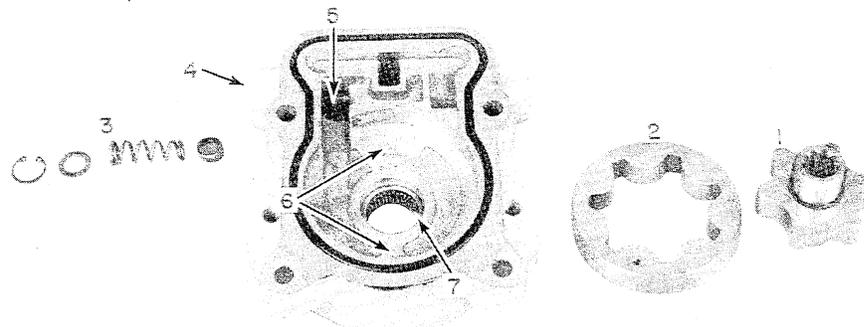

FIGURE 36
22. The gerotor charge pump consists of an inner gerotor ring (1) mounted on a keyed shaft, an outer gerotor ring (2) and a charge-replenishing valve assembly (3), Figure 36. The charge replenishing valve assembly is held in the reservoir supply port (4) to the charge pump by a snap ring. Item (5) is a separate charge passage located in the charge pump adaptor only.
- A. Inspect the charge replenishing valve seat in the adaptor assembly. It should be smooth and free of defects. The relief valve spring should be inspected for any defects such as cracks or fatigue. Make sure the snap ring used to secure the replenishing valve assembly is in the proper groove and not in the fitting threads. See (3), Figure 36.
- B. The charge pump adaptor should be inspected for any scoring in the gerotor area. See (6), Figure 36. Small sand casting pits are acceptable in this area.
- C. Inspect the needle bearing (7), Figure 36. If the needles are free of excessive play and remain in the bearing cage, there is no need to replace the bearing.
- D. Inspect the gerotor outer and inner rings (1 and 2), Figure 36, for any wear, cracks, or worn drive key and replace as necessary.
- A. Install outer gerotor gear (2), Figure 36, in the charge pump adaptor housing. Lubricate gear with STP.
- B. Install shaft key in coupler shaft and install inner gerotor gear over coupler (1), Figure 36. Later inner gears are secured to the shaft with lock rings on both sides of the gear.
15. Reinstall charge pump charge-replenishing valve (3), Figure 36, making sure snap ring is in the snap ring groove and not the fitting thread area to insure proper operation.